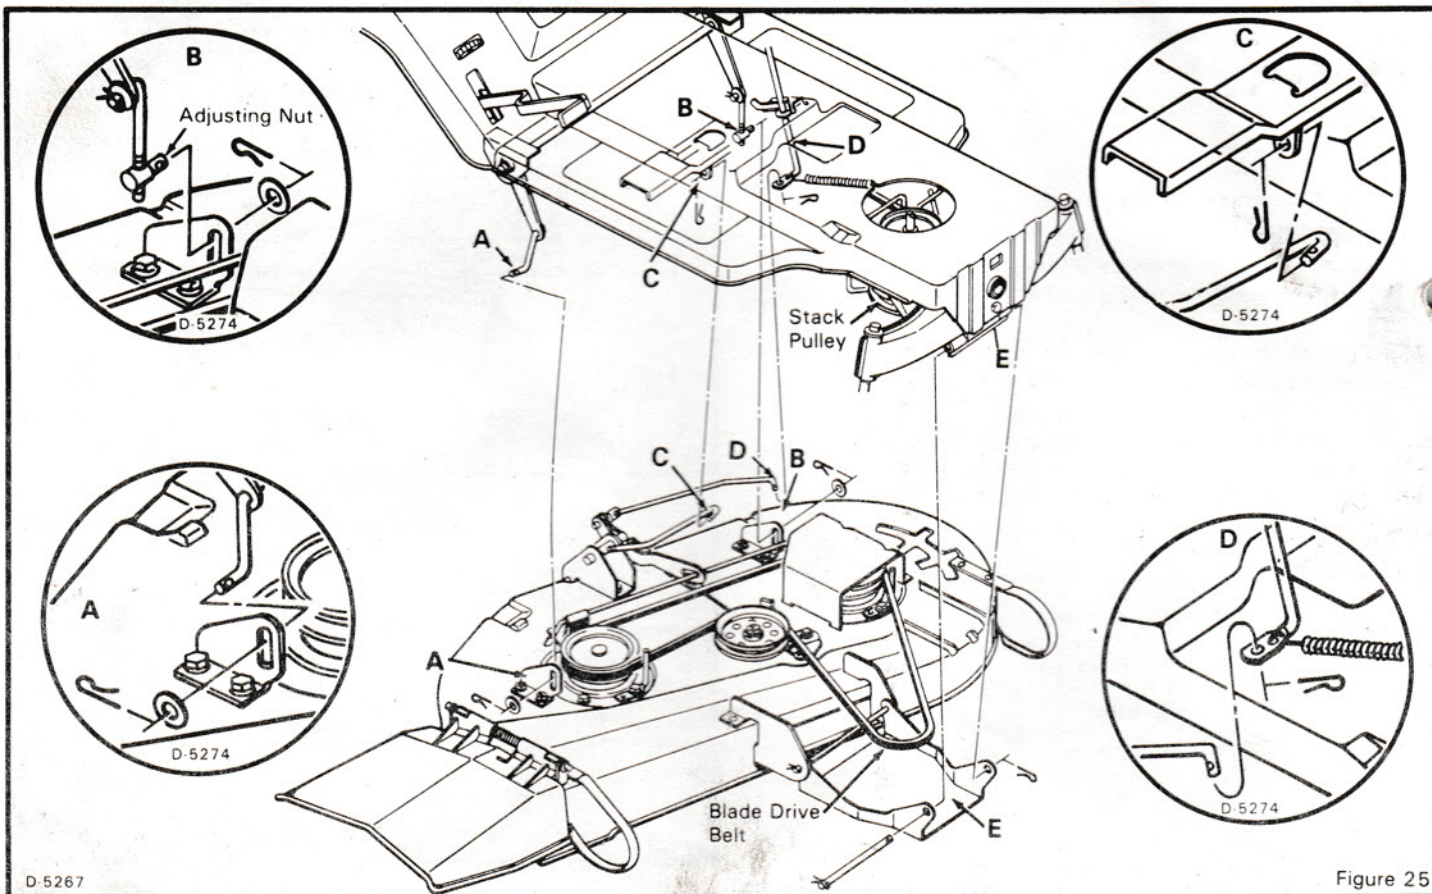

Figure 25
- Disconnect the adjusting nut from the lifter assembly by removing the hairpin (see drawing "B" in figure 25 for location of adjusting nut).